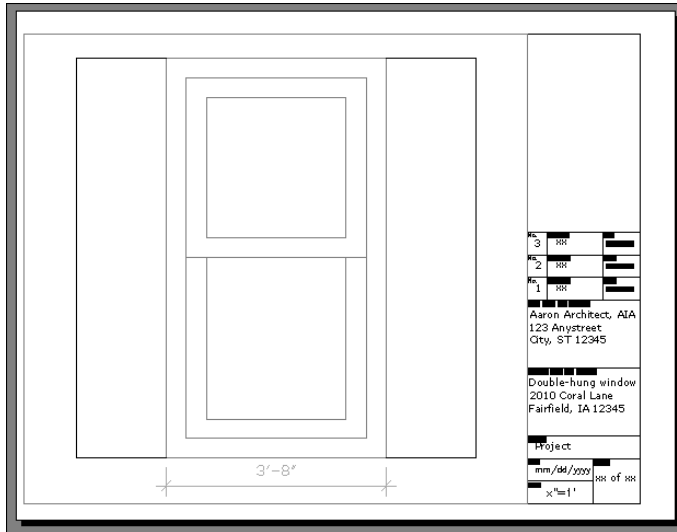

**Figure QS-7:** Viewing the window in Preview mode.
31. Click the Preview button to open the preview window. You should see the window and its title block laid out as shown in Figure QS-7.
If your drawing doesn't look like the image shown in Figure QS-7, there could be several reasons. To fix the problem, try one of the following solutions: